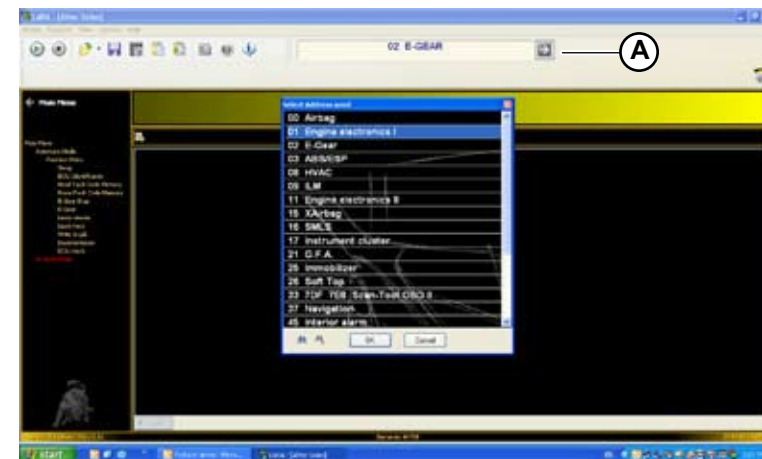

Fig.27
- Select the control unit to be checked “Engine electronics I” (A-Fig.27) and start the connection ().